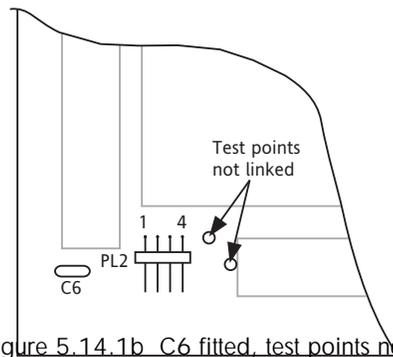

Figure 5.14.1b C6 fitted, test points not linked
2. C6 fitted; C7 not fitted (figure 5.14.1b). Test pins at top end of C7 location and at PL2 pin 6 NOT linked - follow procedure 'B'.
3. Remove test pins (figure 5.14.1b)